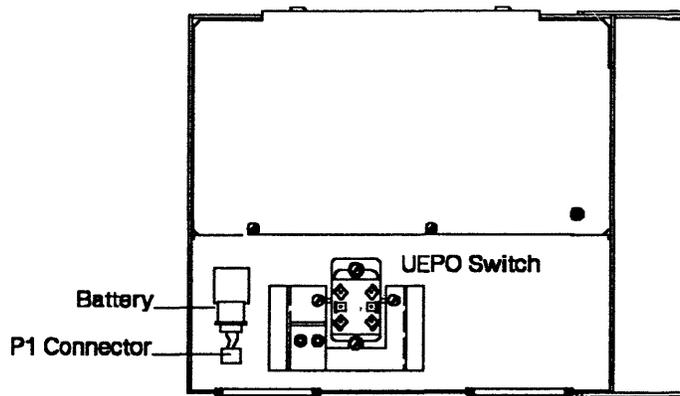

Figure 1-5. Control Panel (Rear)
- Step 7. ___ Open the control panel (one screw). Locate the unit emergency power OFF (UEPO) switch at the rear of the control panel (see Figure 1-5).
- Step 9. ____ At the rear of the control panel, plug the battery connector P1 to connector J1 (see Figure 1-5 on page 1-7 for location). Close and secure the control panel with the screw previously removed.